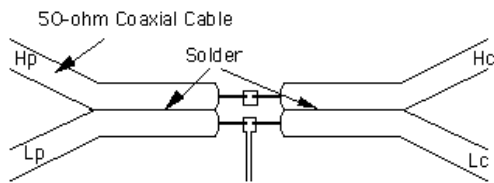

Figure 3
5.2 *four-point probe* — The probe consists of four coaxial measuring terminals, H_c (current high), H_p (potential high), L_c (current low) and L_p (potential low), to measure impedance. Independent coaxial cables are used between the package being measured and the measurement instrument to minimize the effect caused by mutual inductance (between terminals) and/or interferences from the measured signals (see Figures 3 and 6).
8.2 *Four Terminal Probe* — See Figure 3.